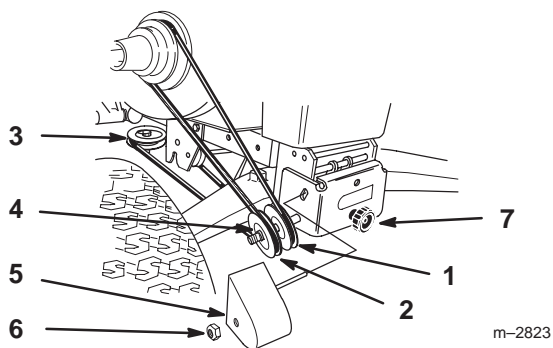

Figure 31
2. Turn knob on idler assembly clockwise to loosen belt (Fig. 31).
3. Remove locknut and belt cover from idler assembly. Remove belt from upper mower pulley (Fig. 31).